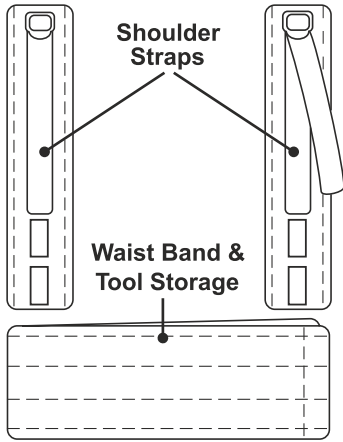

Fig 16
3. Correctly place shoulder straps on each shoulder and secure the waist band with hook and loop strips. (Fig.16)